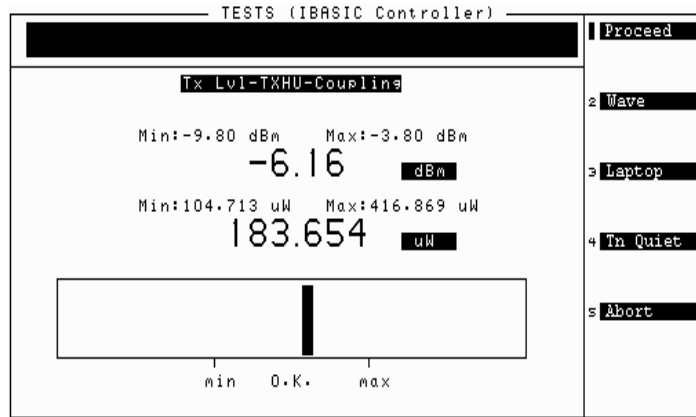

Figure 32 Power Meter Screen for TX Level - TXHU Measurement
1. If you set the Use Power Meter Screen When parameter to None or if you press k1 (Proceed) on the power meter screen (see figure 32 on page 99), the Test Set will show the test result table on the display when the testing is complete. If the measurement's results fall outside the specified limits, the measurement will fail. A failure is indicated by an F in the P/F column.